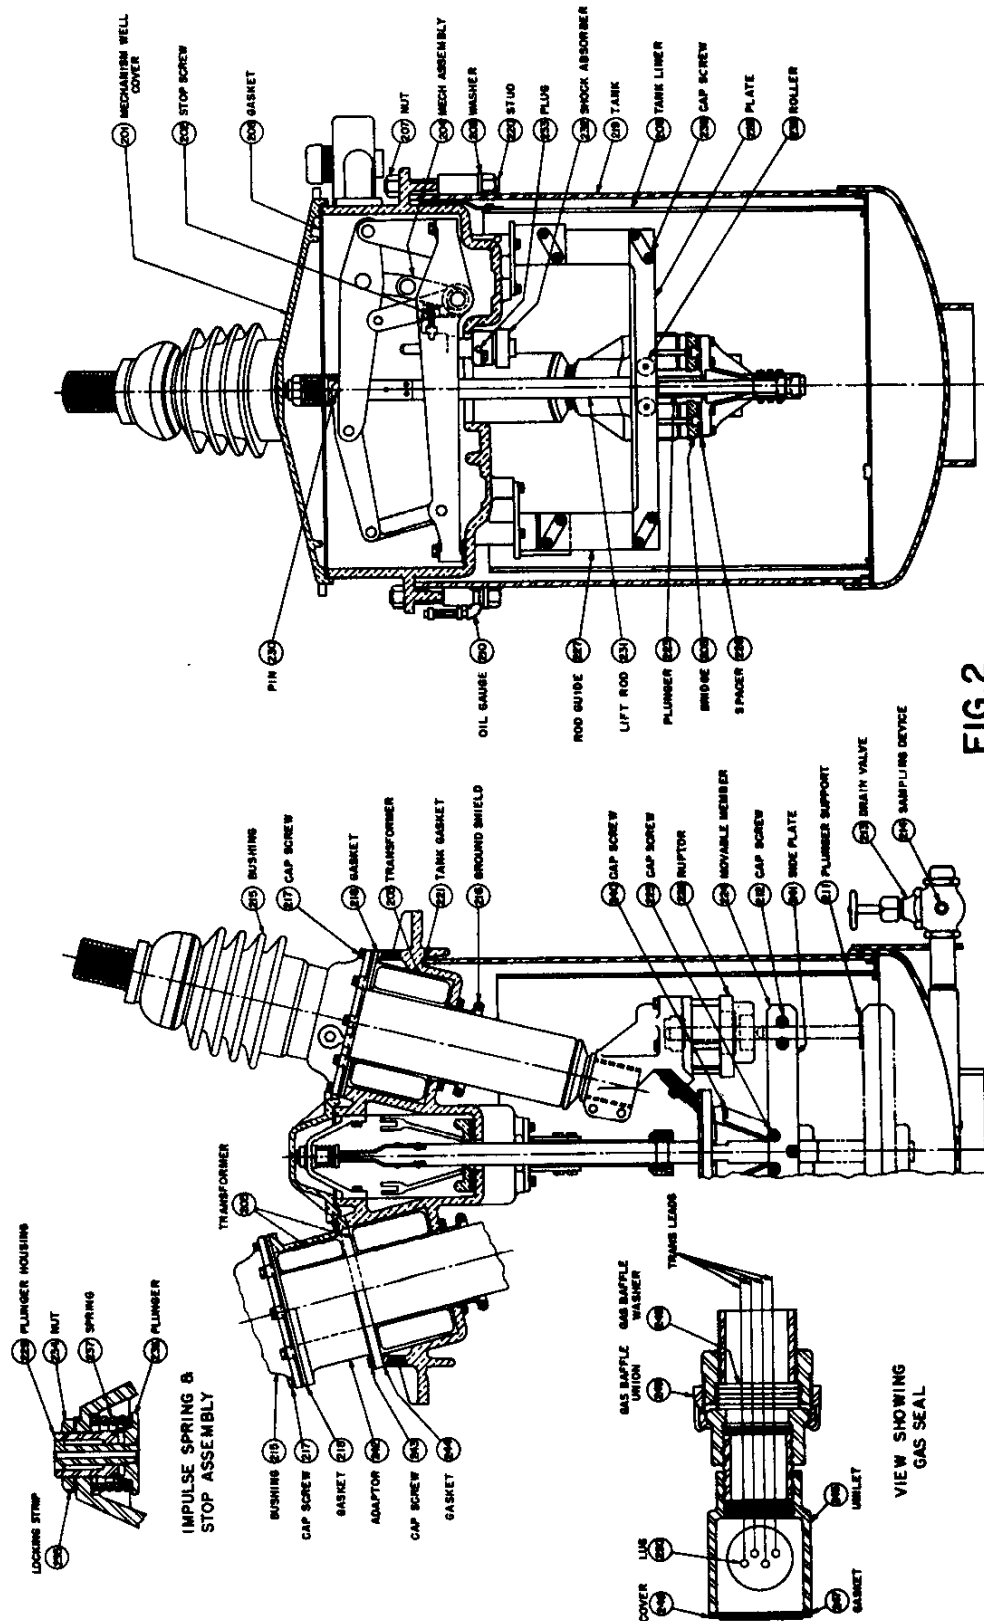

FIG.2
Re-assembly is the reverse of the above. After installing the Ruptor pot (309) and clamp ring (303), close the breaker slowly with the maintenance closing device and be sure that the plungers (223, Fig. 2) pass up through the throat (308) without interference.
BUSHING (Ref. Figs. 2 & 3)
GENERAL (Ref. Figs. 2 & 3)